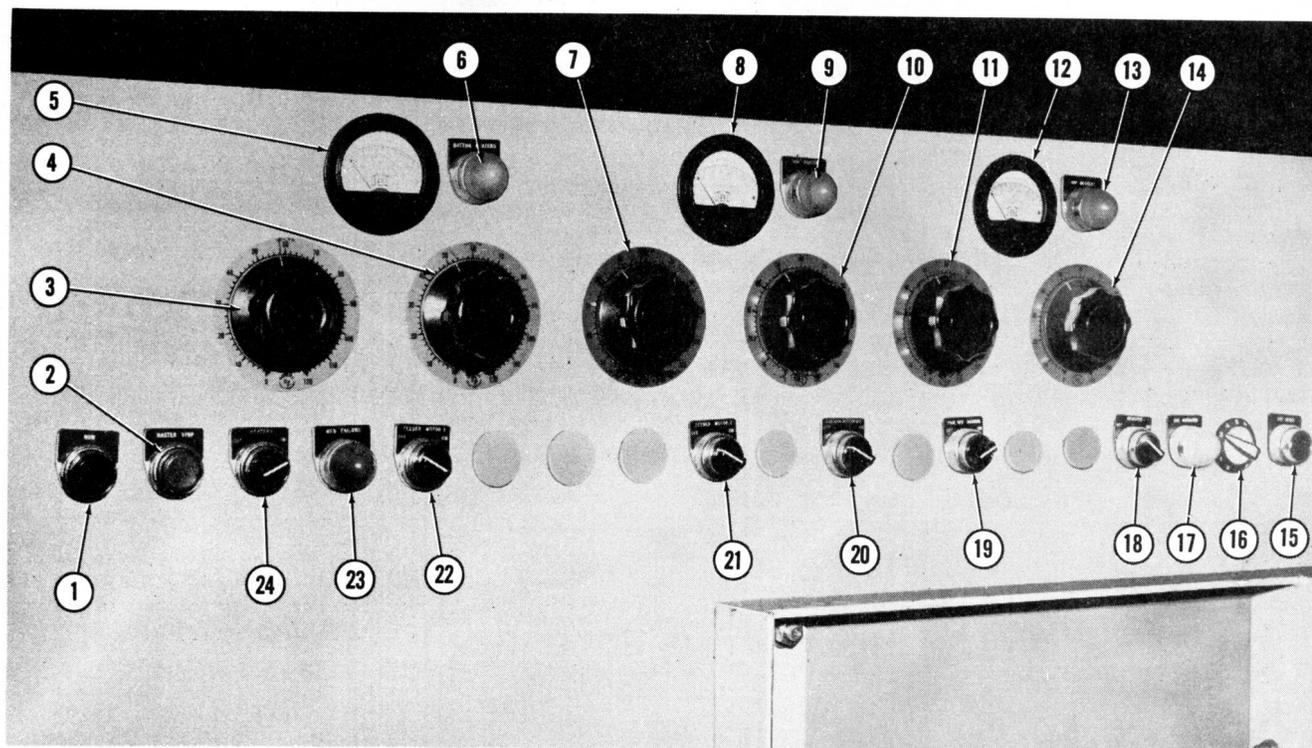
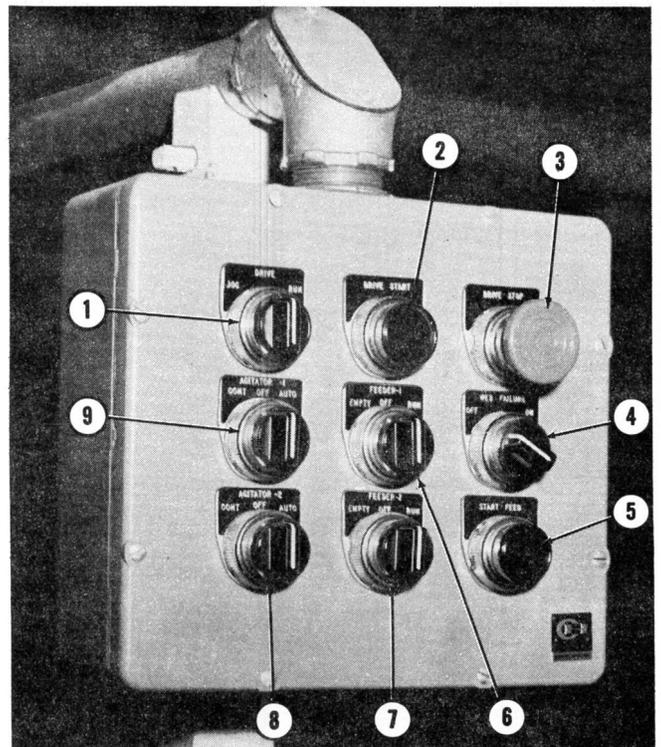

Figure 4-1. Large Control Panel
Figure 4-2. Control Panel
Before placing the Packager in operation, the operating personnel should become thoroughly familiar with the nature, location, and function of all switches, controls and instruments on the Packager. Most operating controls are located on the large control panel (Figure 4-1) and the smaller operators pendant panel (Figure 4-2).
The seal bar heater controls, master on and off controls, electric motor controls, photo register device controls are located on the large control panel. The following table identifies, describes, and briefly explains the functions of all components located on the large control panel as shown in Figure 4-1. Index numbers in the table correspond to the index
The machine running controls are located on the pendant control panel. The following table identifies, describes, and briefly explains the functions of all components located on the pendant control panel as shown in Figure 4-2. Index numbers in the table correspond to the index numbers shown in the figure.
- b. Press master run switch (2, Figure 4-1).
- c. Turn heater switch (24) to ON.
c. Photo eye sensitivity switch (16, Figure 4-1) should be set at approximately 5. The sensitivity must be adjusted to suit the web and register marking. After the proper setting is made, the switch (16) should be left in that position and need not be turned during startup procedures.
(1) Register switch (18, Figure 4-1) (if running printed web).
(2) Vacuum pickoff motor switch (19).
(3) Vacuum opener motor switch (20) (if equipped).
(4) Feeder No. 2 motor switch (21).
(5) Feeder No. 1 motor switch (22).
f. Place drive selector switch (1, Figure 4-2) in RUN position.
g. Place feeder No. 1 switch (6, Figure 4-2) in RUN position and feeder No. 2 switch (7) in RUN position.
i. Press drive start switch (2, Figure 4-2) and Packager will operate. If drive selector switch (1) is in JOG position, Packager will run only when drive start switch (2) is held depressed.
j. When pouches are being made properly press start feed switch (5, Figure 4-2) to operate fillers.
k. After packager starts to cycle, turn web failure switch (4, Figure 4-2) to ON.
a. Check temperature meters (5, 8, and 12, Figure 4-1) for proper heat indications and adjust heat controls if necessary.
a. To make an emergency stop, press drive stop switch (3, Figure 4-2).
b. If the machine stops automatically, check web failure indicator light (23, Figure 4-1). If lighted, web brake may need adjustment, web may have run out or broken, or there is no pouch in the no bag switch station. Any of these conditions will shutdown the machine and light the indicator.
c. For a short stop of about 1/2 hour to one hour, press drive stop switch (3, Figure 4-2) and turn vacuum pump motors off at switches.
a. Press drive stop switch (3, Figure 4-2).
(1) Agitator switches (8 and 9, Figure 4-2).
(2) Feeder switches (6 and 7, Figure 4-2).
(3) Web failure switch (4, Figure 4-2).
(4) Heater switch (24, Figure 4-1).